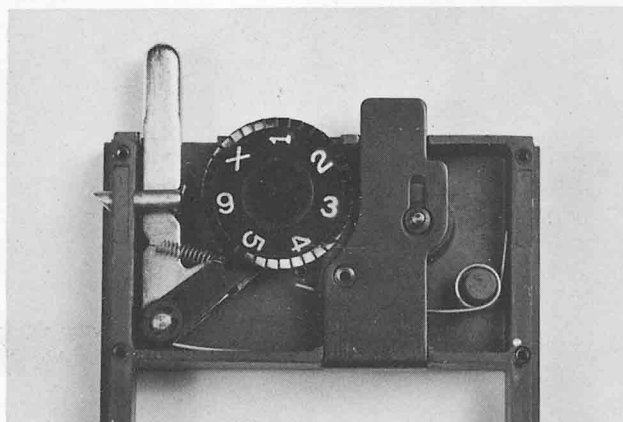

Figure 2. Counter Mechanism-Assembled
keeping the lever to the side and under the flange of the counter dial (24). See figure 2 for assembled counter mechanism.
e. If necessary, recement felt seal (18) to drawer cover assembly (17). Apply drop of Glyptol, lacquer or shellac to eight screw holes in drawer and assemble cover assembly (17) using eight screws (19). Assemble plate assembly (15) using two screws (16).
f. Assemble slide hook (14).
h. Lubricate edges of dark slide (13) with paraffin and insert in drawer, and operate several times.
i. If necessary, recement felt seal (12) to the case assembly (10) using EC-784, and reassemble cutoff assembly (11) using 1/2 inch tape.
j. If removed, reassemble cutoff assembly (9) to cover (8) using 1/2 inch tape.
k. Slide the cover (8) onto the case assembly (10) and assemble septum stop (6) to the cover, using two screws (7).